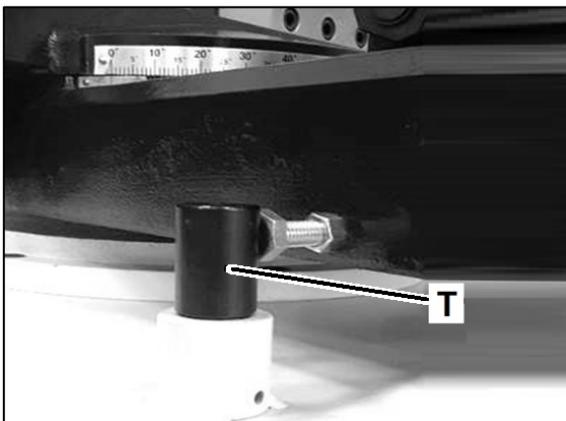

Figure 8-2: Zero Degree Mitre Stop
8. Pull-up the zero degree stop rod (T, Fig. 8-2) as needed.